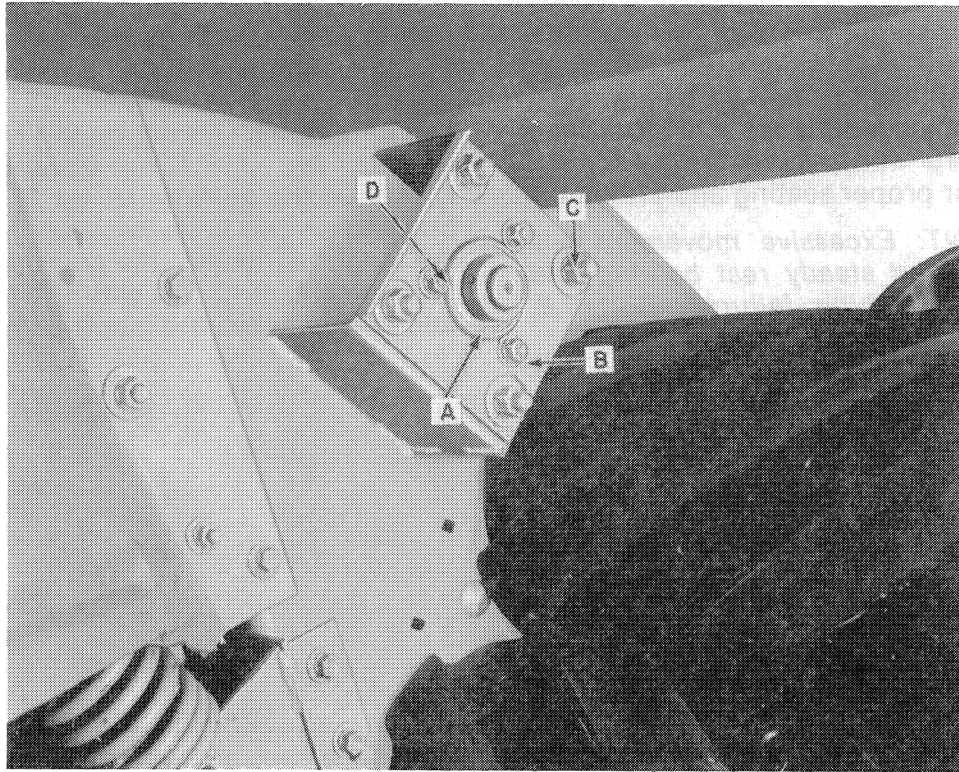

FIGURE 9
5. Remove locking collar, A, Figure 9, and the three bearing mounting bolts, B. Remove bolts, C, Figure 9, and remove the bearing and mounting plate.
2. Install the bearing on the output shaft and install bearing flange bolts, B, Figure 9, in the mounting plate. Install mounting plate bolts, C, Figure 9. Tighten bearing bolts, B, and then tighten bolts, C, last. This will eliminate a radial loading on the bearing if this sequence is followed.
**NOTE: On units that have the overrunning clutch, shims must be installed between the long spacer and bearing at D, Figure 9, for a maximum end play of 1/16" (1.6 mm) on the complete clutch assembly. At the same time, the overrunning clutch must be free to rotate. Install locking collar, A, Figure 9, and tighten in the direction of rotation.**